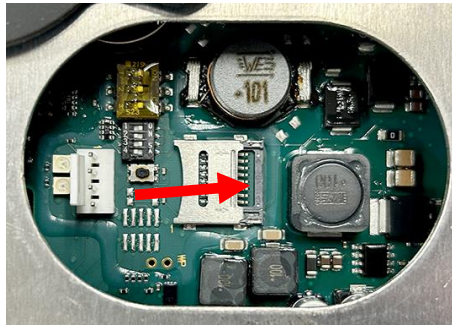

Figure 15
16. Gently slide the lock towards the **RIGHT as shown** arrow towards the gray plastic edge until the top retainer stops (see Figure 15).